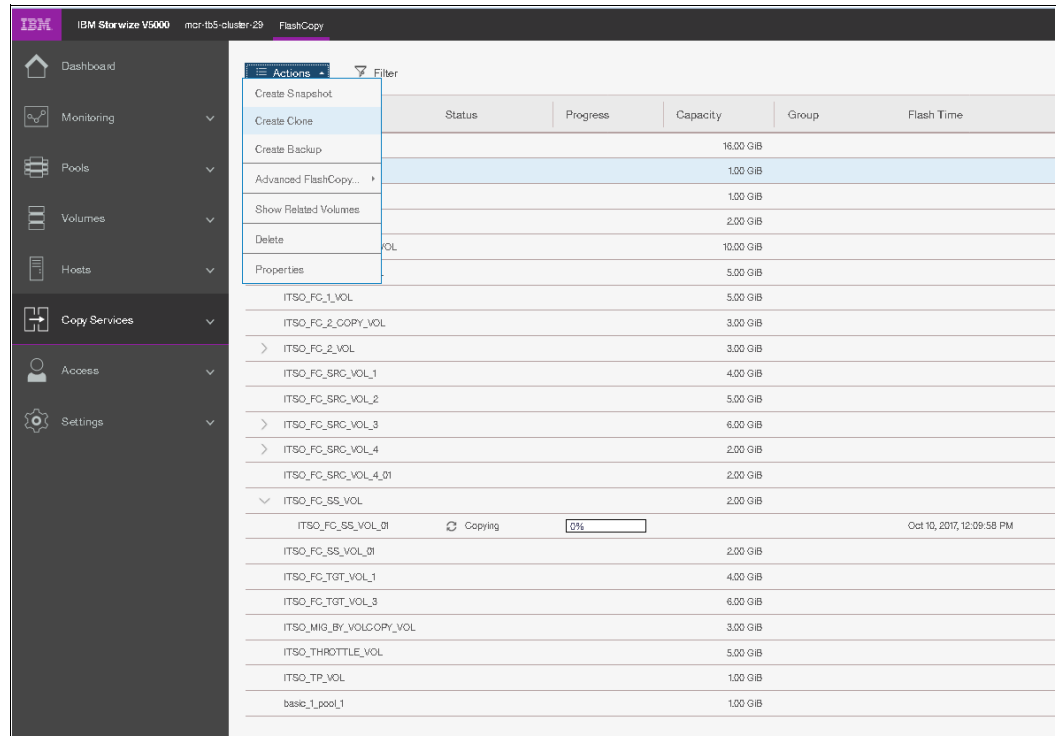

Figure 10-33 Create Clone option
3. Click **Actions** → **Create Clone**, as shown in Figure 10-33 on page 496.